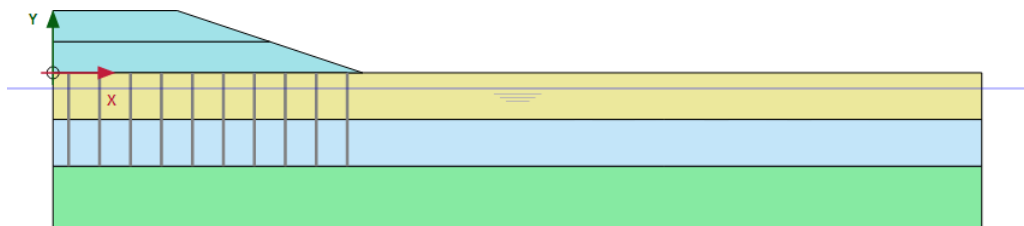

Figure 9–10: Configuration of the phase 3
- 5 In the **Staged construction mode** activate the second part of the embankment. The model for phase 3 is shown in Figure 9–10 \(p. 153\).